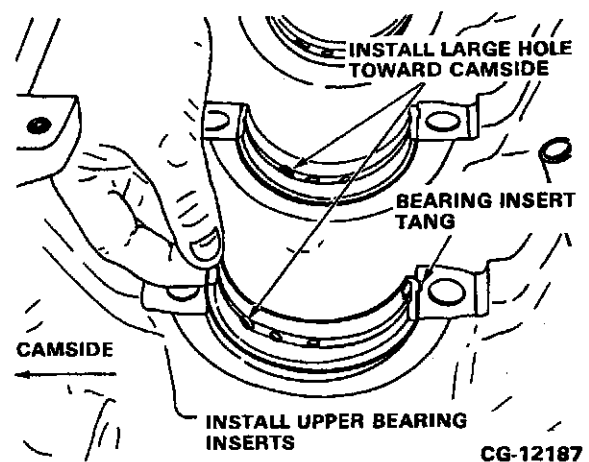

Figure 7.61. Install Main Bearing Inserts
3. Install the upper bearing inserts into the bearing saddle. Be sure the locking tangs on the bearings are snapped into the crankcase. Install with the large oil hole toward the cam side. Refer to Figure 7.61.